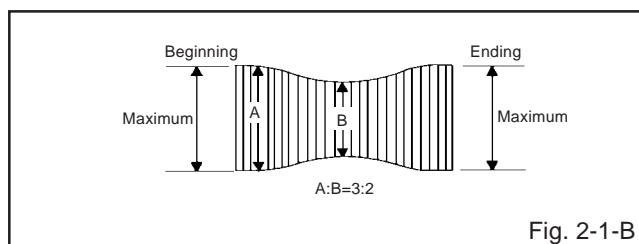

Fig. 2-1-B
3. Trigger with SW pulse and observe the envelope. (Refer to Fig. 2-1-A)
5. Press and hold the tracking control button and (at the point that the envelope waveform starts to reduce) adjust the envelope so that the A : B ratio is better than 3 : 2. (Refer to Fig. 2-1-B)
1. Adjust the height of reel disk. (Refer to item 1-1)
2. Confirm and adjust tension post position. (Refer to item 1-2)
3. Adjust the guide roller. (Refer to item 2-1)
4. Adjust the A/C head tilt. (Refer to item 2-2)
5. Adjust the A/C head height and azimuth. (Refer to item 2-3)
6. Connect CH-1 on the oscilloscope to TP4101 and CH-2 to TP4102. Playback the VHS alignment tape (JG001). Set the tracking to manual center. Adjust X with the screw driver for X (JG153) as the Fig. 2-1-A and Fig. 2-1-B. (Refer to No. 2 of the item 2-1).